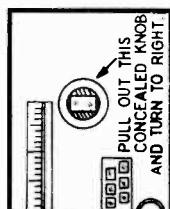

FIG. 7
4. Grasp this knob and pull it out as far as it will go and at the same time "rock" it so that the gears in the mechanism at the rear will mesh properly (see fig. 7).